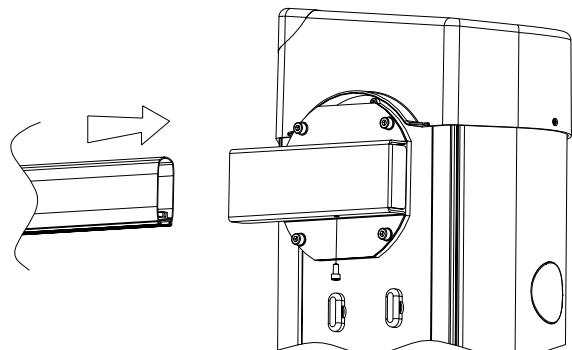

Fig. 6
- Slide the square barrier arm into the bracket from the opposite side of its lid, screw in tightly the four M8 screws (Fig. 6) and fix the boom with the M6x12 screw.